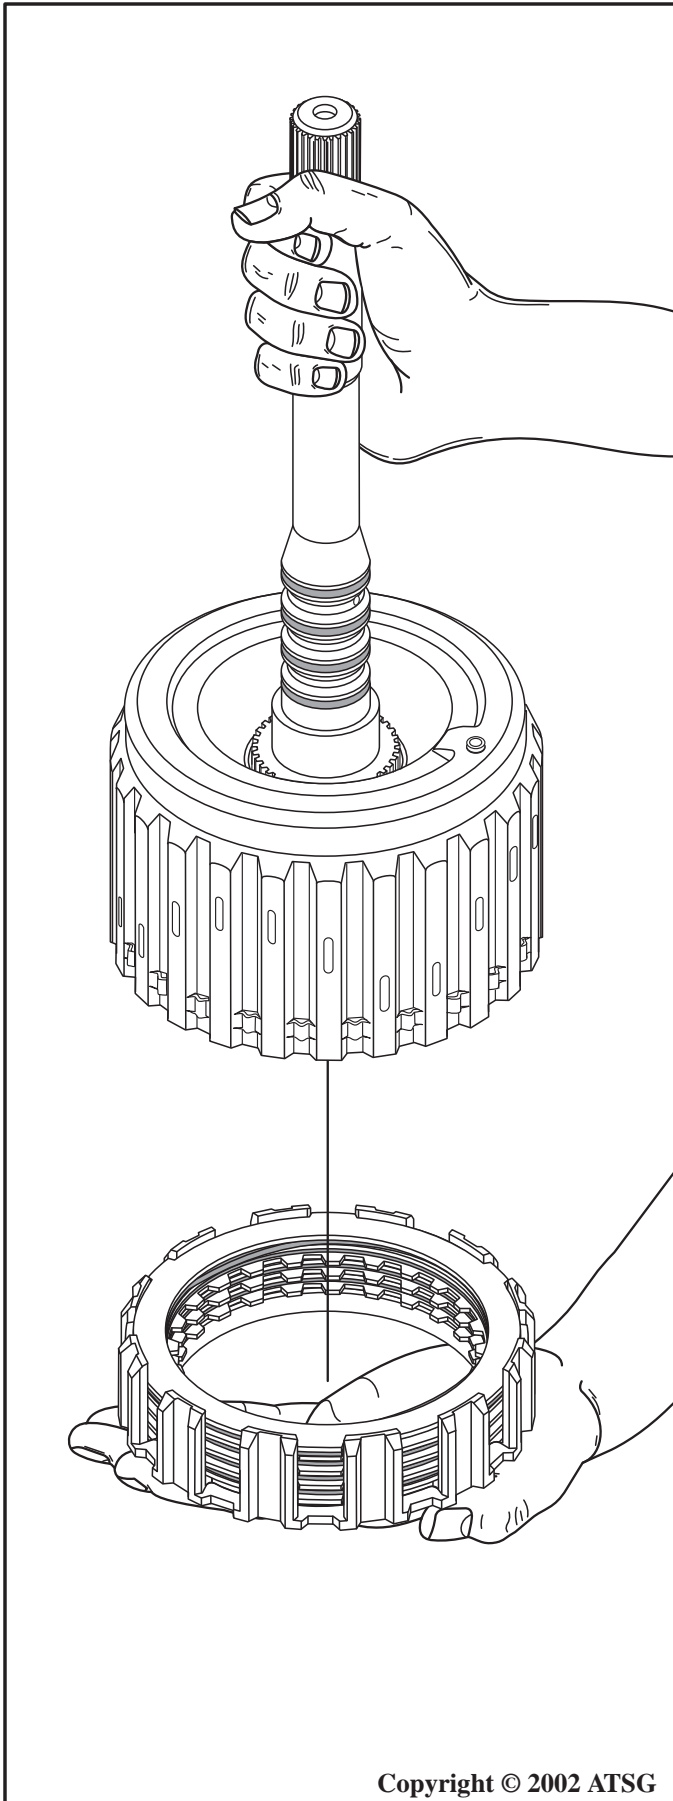

Figure 93
30. Holding the completed coast clutch housing in your left hand and grasping the turbine shaft with your right hand, as shown in Figure 93, index and install the coast clutch housing up into the forward clutch housing, all the way.